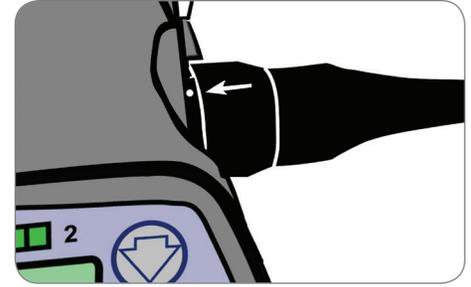

Figure 64: Correct locking position
- 5) Gently push the cable into the controller. DO NOT twist the connector, but allow it to naturally lock in place. A successful connection will result in an audible click (Figure 64).